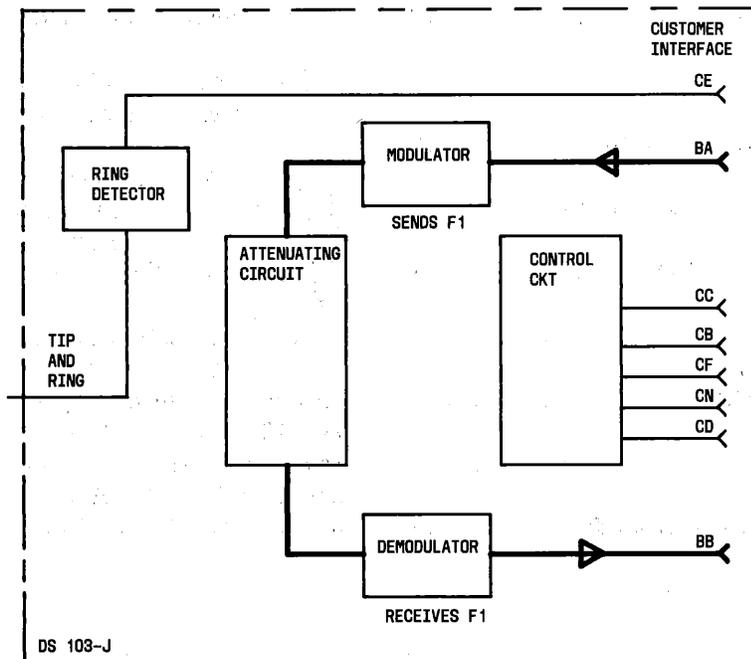

Fig. 1—Analog Loop-Back Test Mode—Simplified Block Diagram
2.03 In the analog loop-back test mode (Fig. 1), the data set is isolated from the telephone line, with the exception of the ring detector circuit. During this test the data set circuits are modified to keep both the transmitter and the receiver in the f_1 mode. The output of the transmitter is looped via an attenuating circuit to the receiver.